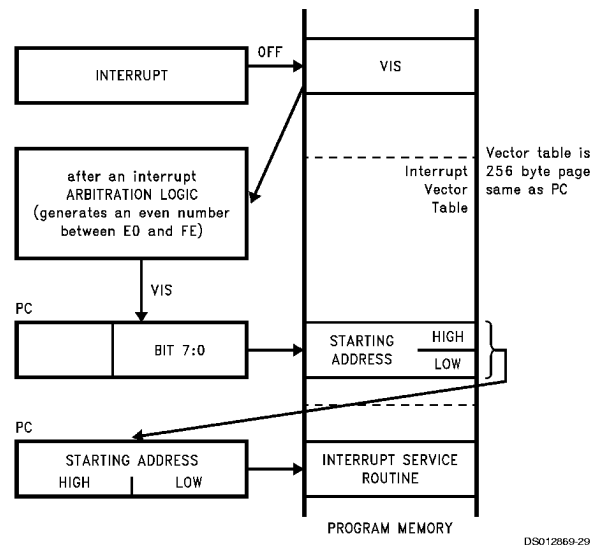
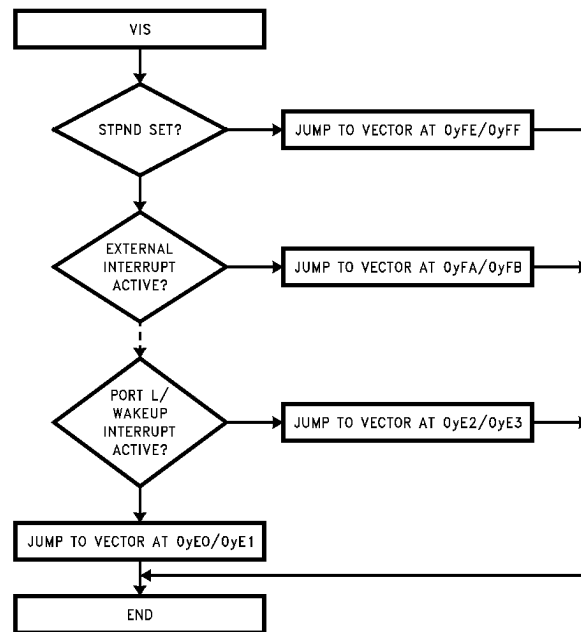

FIGURE 15. VIS Operation
FIGURE 16. VIS Flowchart
*Figure 15* illustrates the different steps performed by the VIS instruction. *Figure 16* shows a flowchart for the VIS instruction.